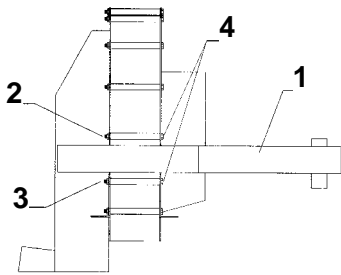

Figure 3
4. On the air blast nozzle side of the debris blower, remove the two 3/8" NC x 6 1/2" hex bolts (fig.3, items 2-3) and two 3/8" NC flange nuts (fig.3, item 4) located above and below the tubing (fig.3, item 1). Keep these bolts and nuts on hands.
1. Insert a 7/16" flatwasher on each bolt kept on hand and attach the rotation bracket to the debris blower using these bolts and nuts kept on hands. The rotation bracket should go over the intake cover (item 3), with the slot covering the tubing (fig.3, item 1).